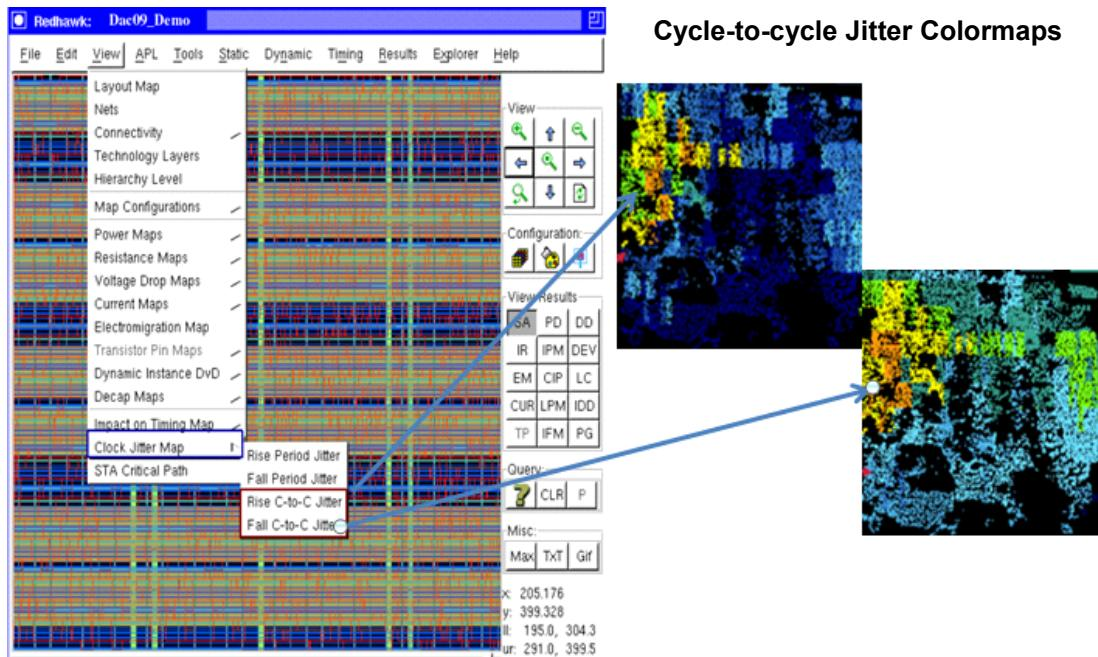

Figure 8-20 Instance cycle-to-cycle jitter colormaps
- Instance cycle-to-cycle jitter colormaps - Click on **View->Clock Jitter Map->Rise/Fall C-to-C Jitter**. The selected colormap is displayed (see Figure 8-20). This can also be displayed using the TCL ‘show jitter’ command.